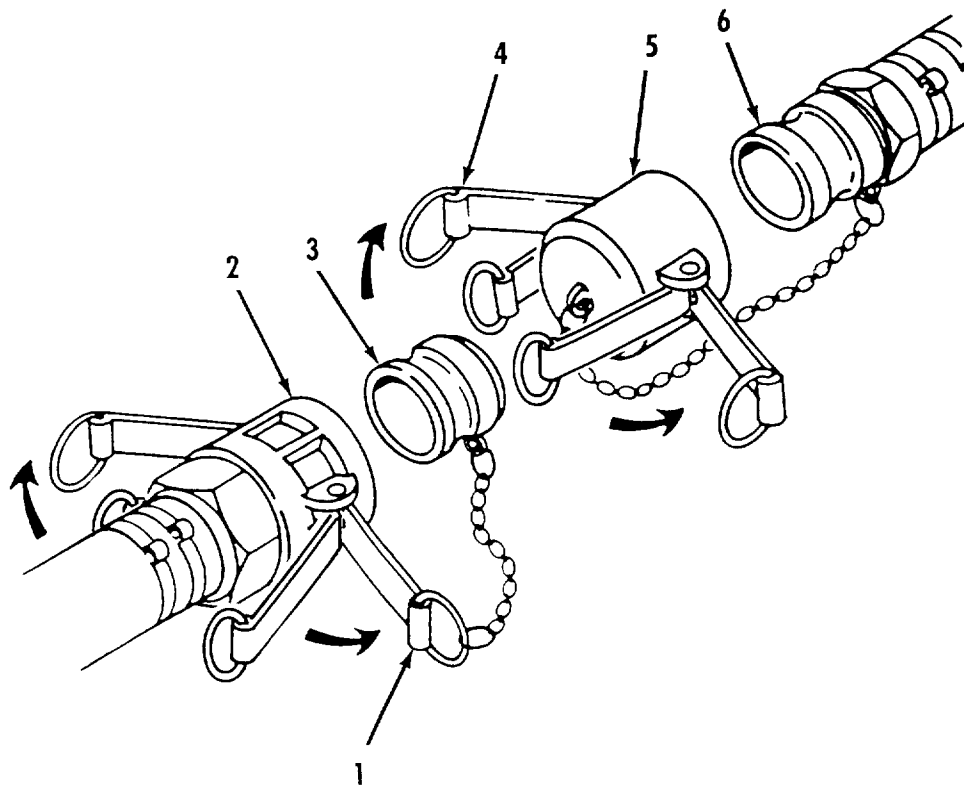

Figure 2-13. Quick Disconnect Couplings.
- e. Quick disconnect couplings. Refer to figure 2-13.